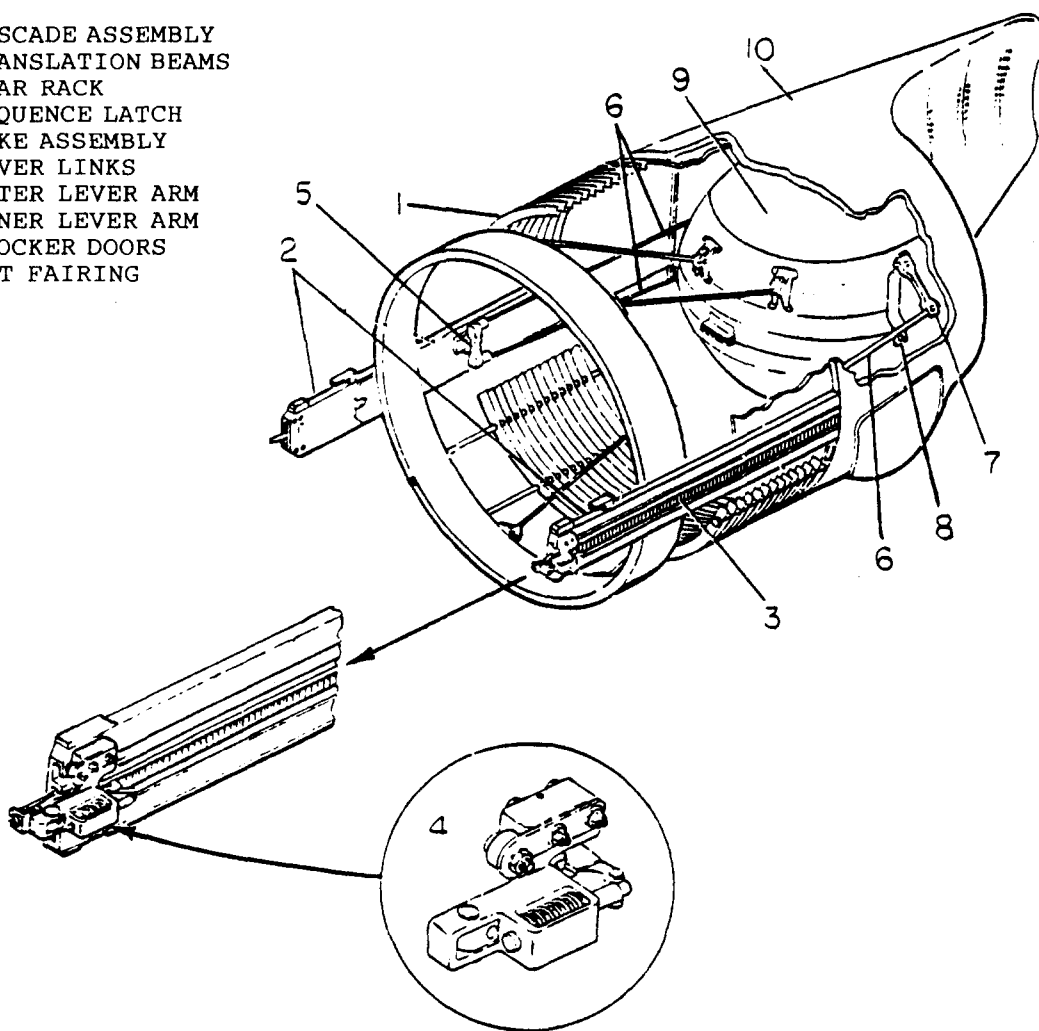

Figure 1 - Translating Structure
1. Description. The translating structure (Figure 1) consists of the necessary hardware to function on command to reverse the direction of engine exhaust gases to provide the reverse thrust action. Major assemblies which comprise the translating structure are a cascade assembly (Figure 1, Item 1), two translating beams (2) with associated gear racks (3) and sequence latch assemblies (4), two yoke assemblies (5) with associated yoke to lever links (6) and actuation levers (outer 7, inner 8) and two clam shell type blocker doors (9). The thrust reverser tailpipe (not shown) is attached to the aft end of the translating structure and enclosed by the aft fairing (10).